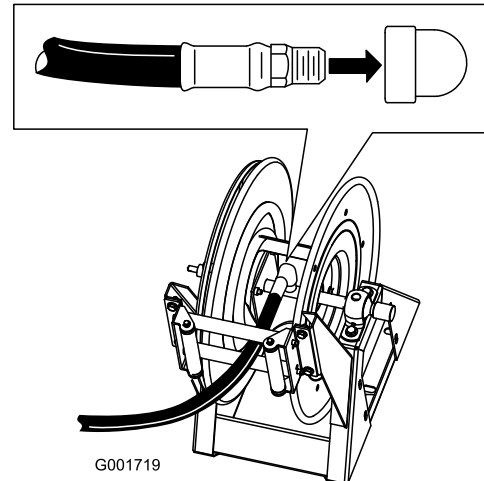

Figure 40
1. Apply PTFE sealant to the threads of the hose fitting on the long hose, and install the fitting into the connecting tube on the reel (Figure 40).